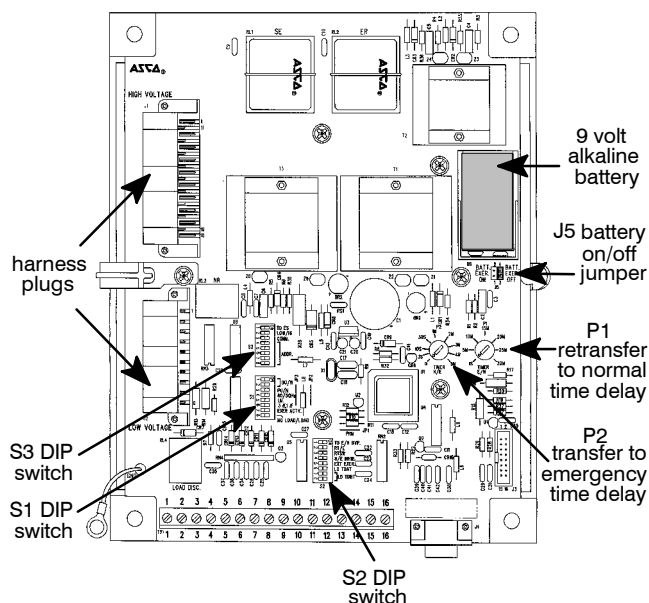
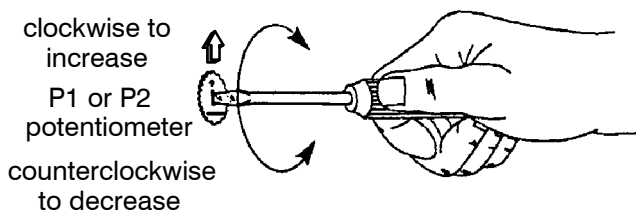
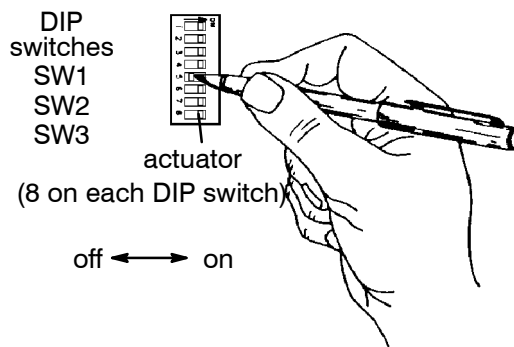

Figure 4-2. Location of potentiometers.
Figure 4-3. Changing time delay potentiometers.
Figure 4-4. Setting DIP switch actuators.
4. Locate the appropriate adjustment potentiometer or DIP switch for the setting that you want to change. Refer to Table 4-1 and Table 4-2 on page 4-1 and Figure 4-2, Figure 4-3, Figure 4-4 on page 4-2.
5. Use a small screwdriver to turn the potentiometer clockwise to increase the time delay or counterclockwise to decrease it. See Figure 4-3.
6. Use a ball-point pen (or similar pointed tool) to slide the switch actuators left or right so they match the illustration next to the setting (left = off, right = on). Recheck the setting. See Figure 4-4.
The engine exerciser included in ASCO Series 300 Automatic Transfer Switches provides a once a week 20-minute exercise period. It occurs immediately when the SET ENGINE EXERCISER push button is pressed (and held for at least 5 seconds), and then at the same time weekly thereafter. A 9 volt alkaline battery (*Duracell*® MN1604, *Everready*® 522, or *Panasonic*® 6AM6) is furnished and installed in the controller to maintain the setting. The battery jumper block must be shifted to the ON position. See Figure 4-2 on page 4-2.